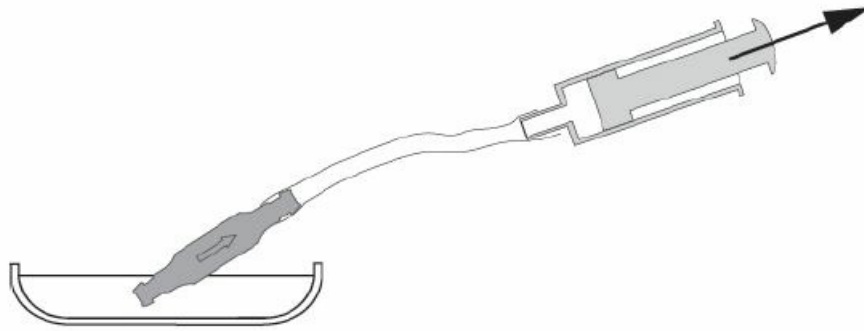

Fig. 15: Patency test
- The valve is patent if saline solution can be extracted (fig. 15).